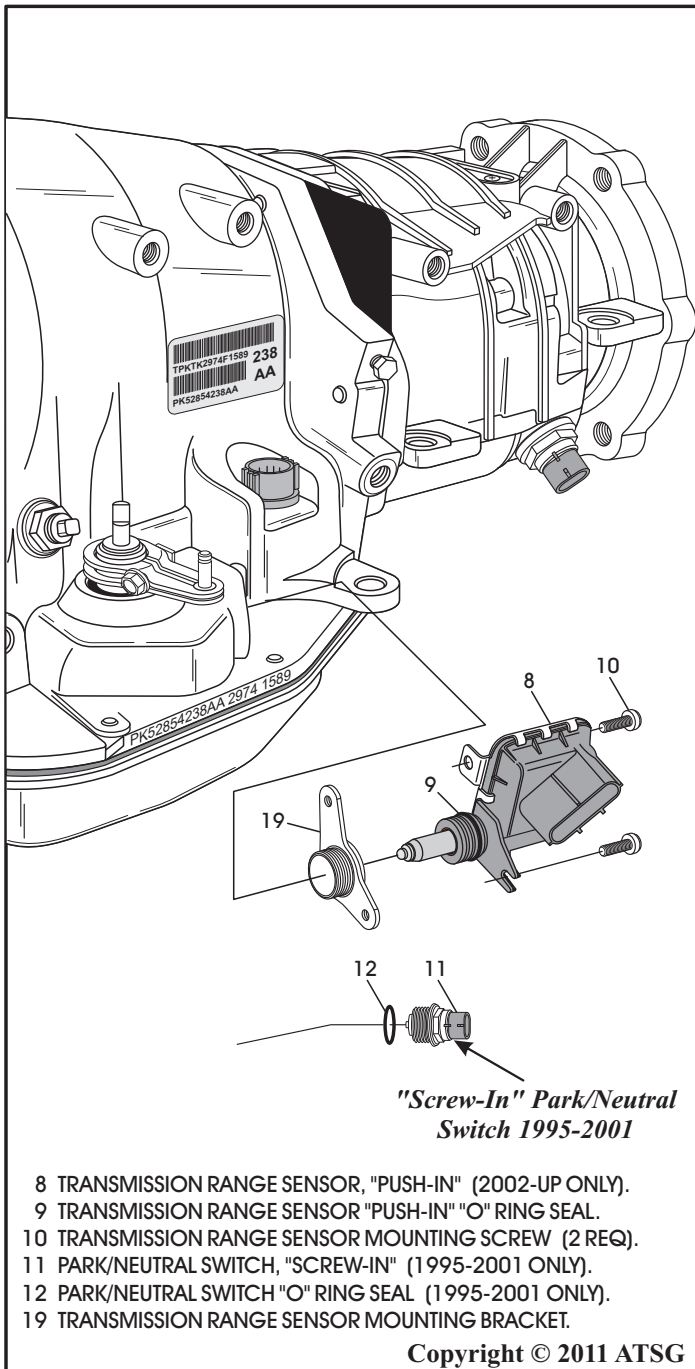

Figure 246
78. Install new "O" ring seal on range sensor or the neutral switch, as shown in Figure 246.
79. Install the push-in style range sensor, as shown in Figure 246, torque the two mounting screws to 5 N·m (45 in.lb.).
80. Install the screw-in neutral switch, as shown in Figure 246, and torque to 34 N·m (25 ft.lb.).